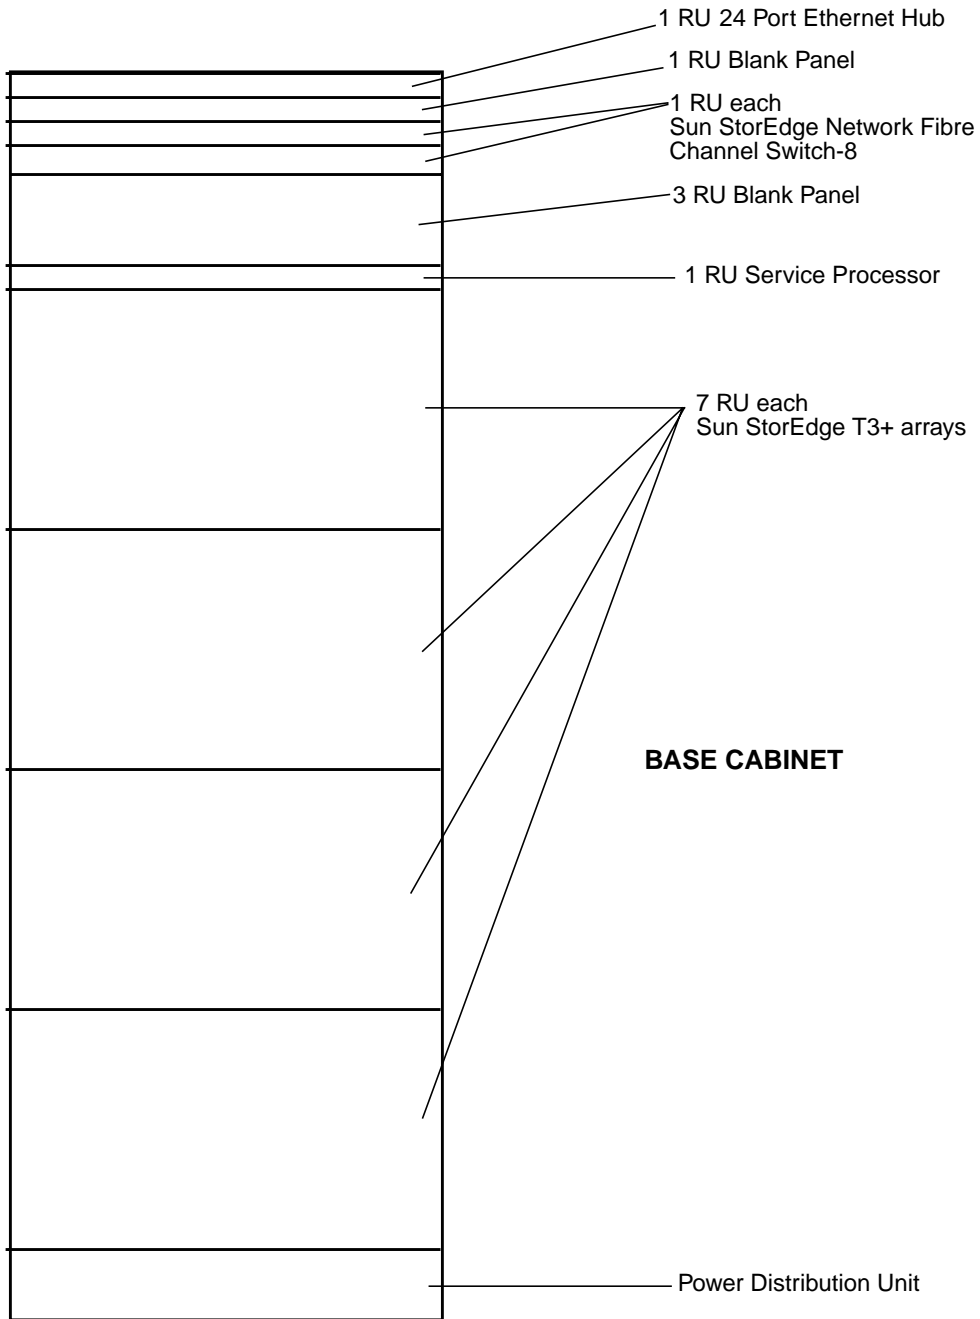
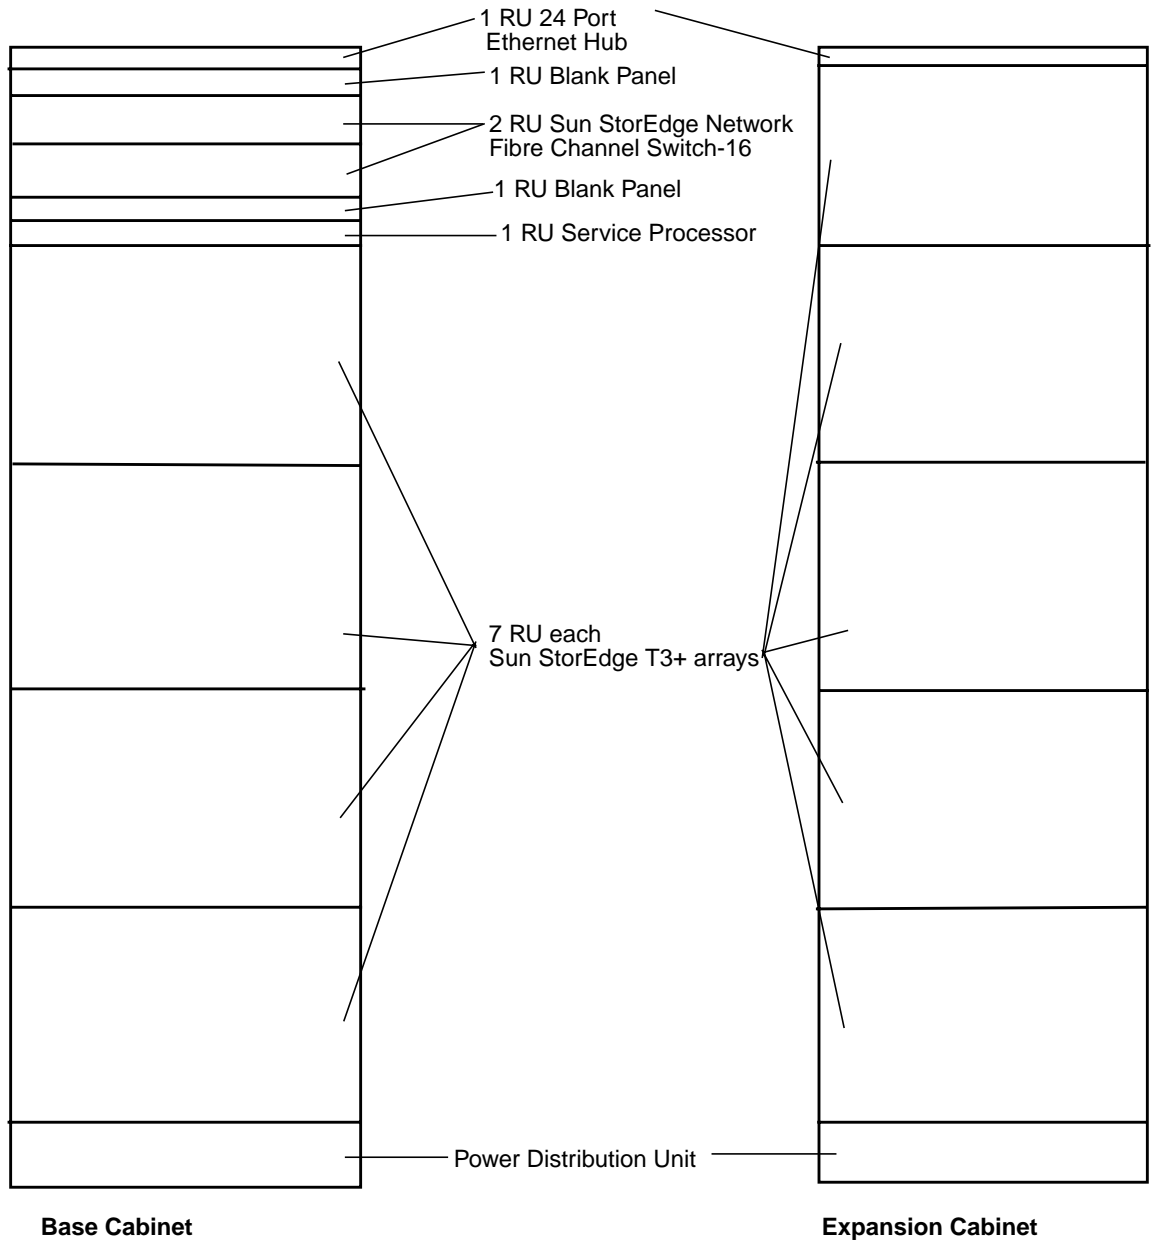
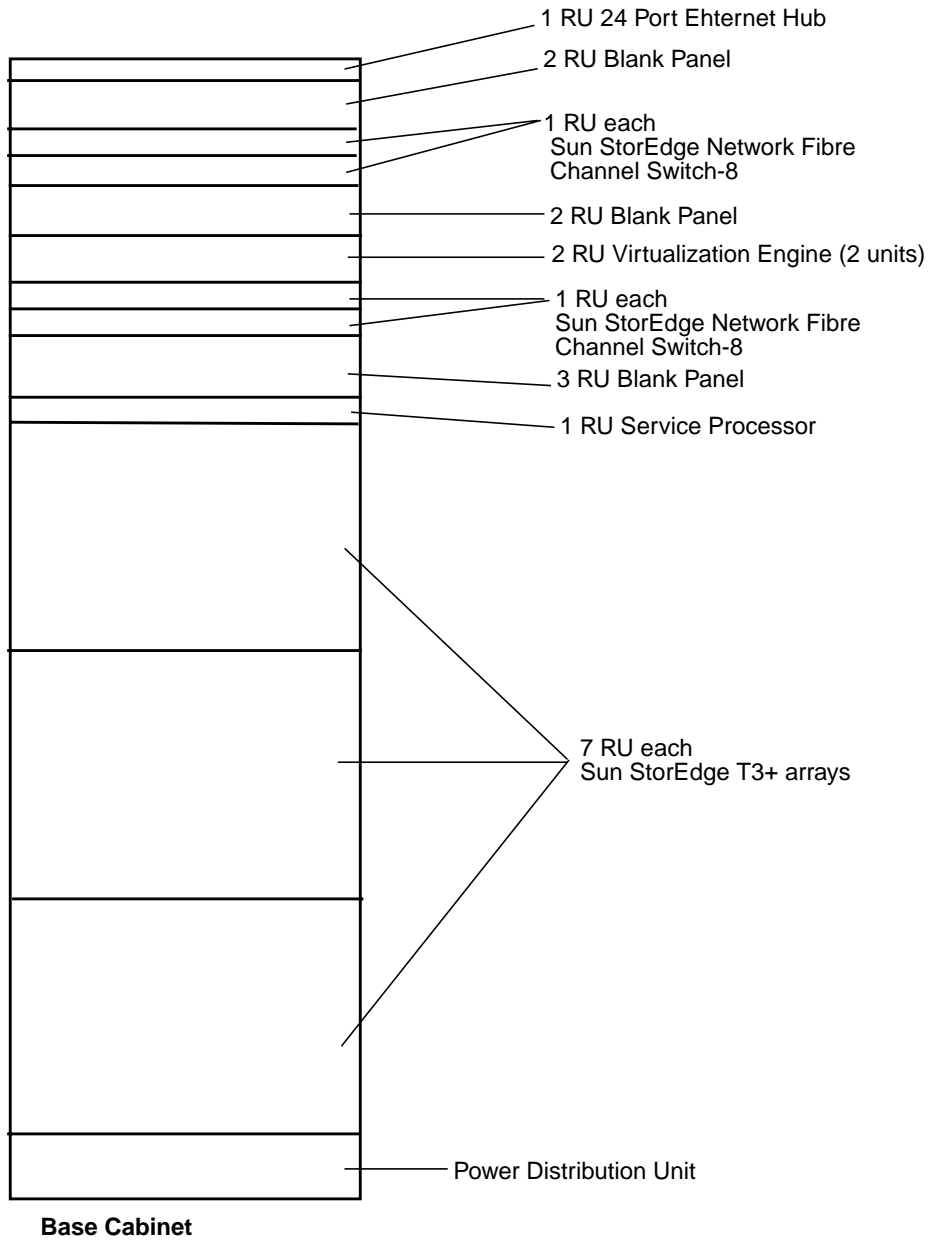
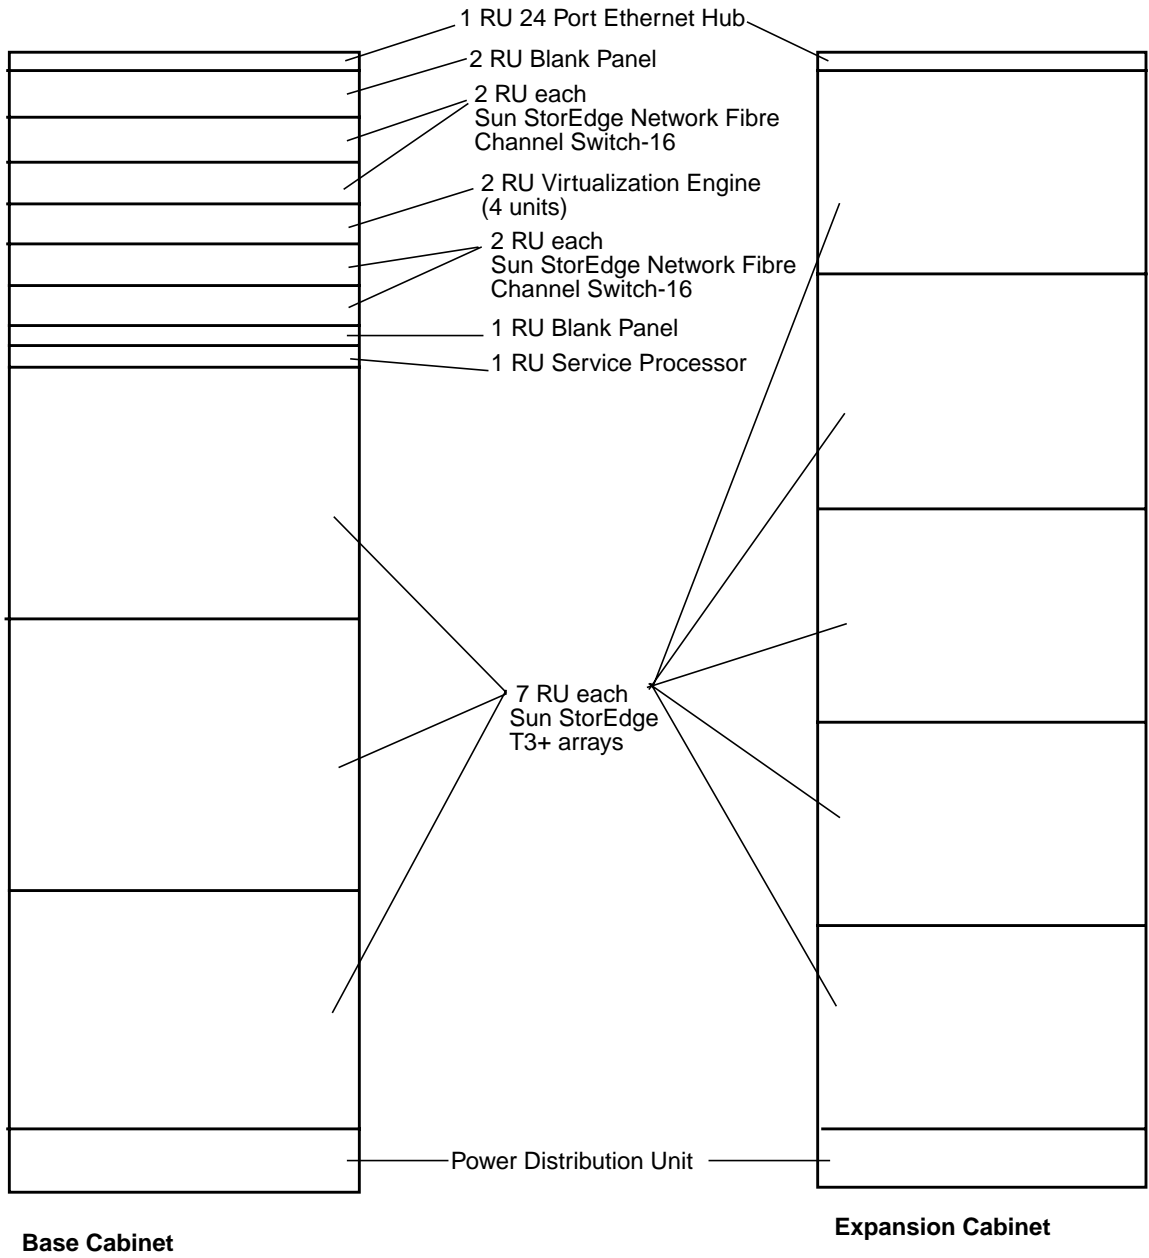

FIGURE 6-1 Sun StorEdge 3910 Storage system FRU Placement
FIGURE 6-2 Sun StorEdge 3960 Storage System FRU Placement
FIGURE 6-3 Sun StorEdge 6910 Storage System FRU Placement
FIGURE 6-4 Sun StorEdge 6960 Storage System FRU Placement
The location where FRUs can be mounted in the Sun StorEdge 3900 and 6900 series storage systems is show in FIGURE 6-1, FIGURE 6-2, FIGURE 6-3, and FIGURE 6-4. The locations are defined by the number of rack units (RU) occupied by a FRU or blank panel.